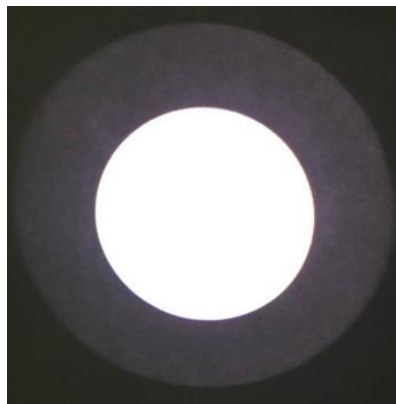

Figure 44: Uniform output of a properly aligned Xe lamp.
13. Move the lever so that it rotates about the cylindrical condenser lens assembly until the light on the backdrop becomes uniform and circular as seen in Figure 44.